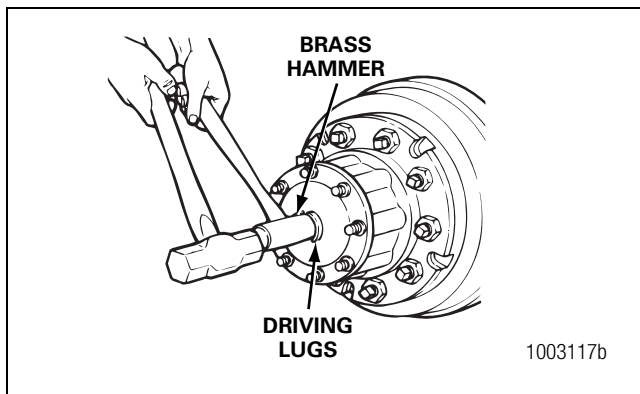

Figure 3.3
1. Hold a 1-1/2-inch (38 mm) diameter brass drift against the center of the axle shaft, inside the round driving lugs. Figure 3.3.